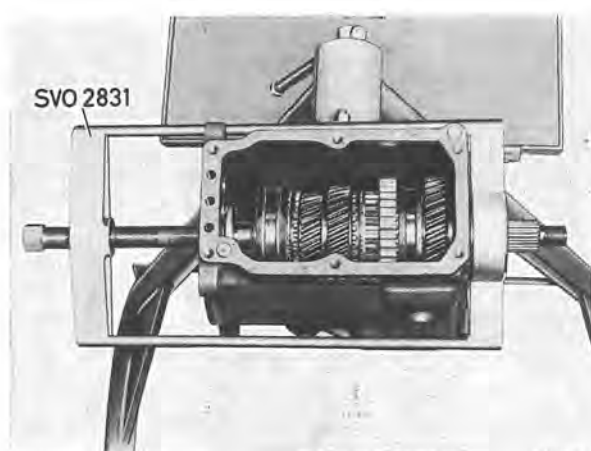

Fig. 4-29. Fitting mainshaft rear bearing
4. Fit the rear ball bearing on to the mainshaft. Fit press tool SVO 2831 over the bearing and the mainshaft as shown in Fig. 4-29. Press the bearing on to the shaft. If the bearing does not locate in the housing, the spindle on tool SVO 2831 can be screwed out and a flat iron piece placed between this and the front end of the housing. The bearing can then be pressed into position with the tool.